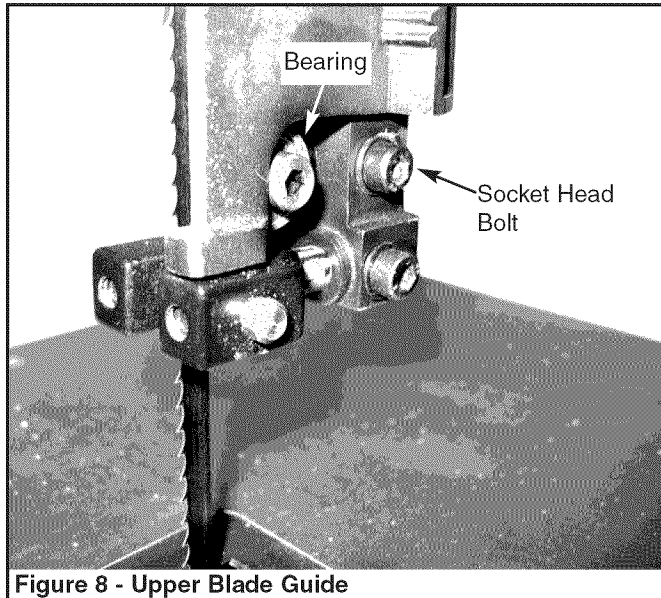

Figure 8 - Upper Blade Guide
- Adjust ball bearing at rear of blade by loosening socket head bolt and repositioning shaft (see Figure 8).